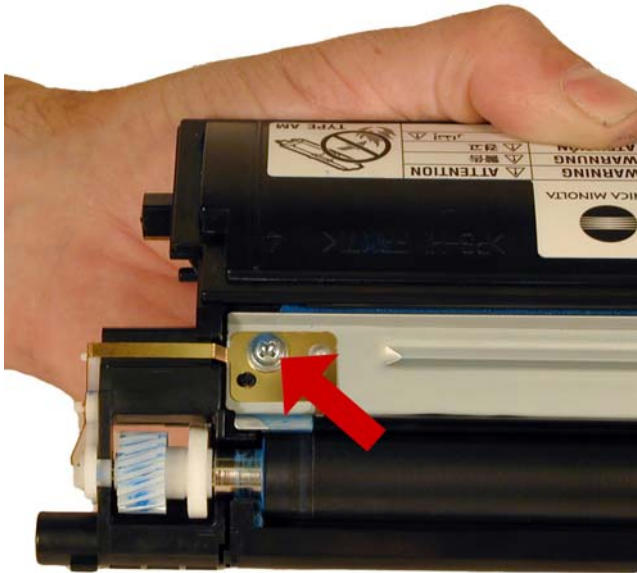

Figure 8
5) Remove the doctor blade contact screw. See **Fig. 8**